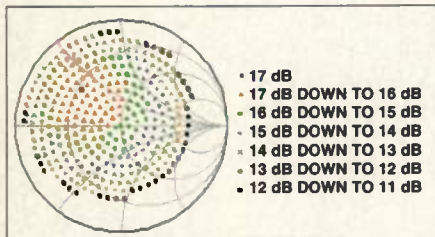
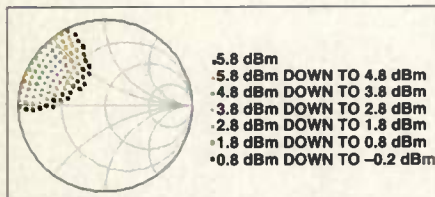
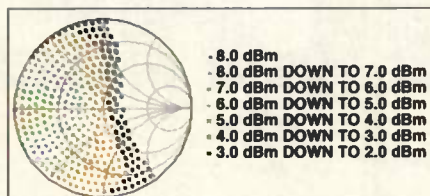

Figure 7. Gain contours for 1.9 GHz LNA.
Figure 8. IIP3 contours for 1.9 GHz LNA.
Figure 12. IP3 contours for decoupling corrected LNA circuit, 1.9 GHz LNA.
4. *Loadpull matching*—The last step in LNA design involves output matching of the transistor. Traditionally, this step used to be relatively simple. An additional resistor either in series or parallel, has been placed on the collector of the transistor for circuit stabilization. Conjugate matching has been exclusively used for narrowband LNA design to maximize the gain out of the circuit. With additional IP3 requirement forced on the LNA, the trade-off between IP3 and gain must be considered. Linearity matching is widely known by high-power amplifier designers, especially those who deal with linear systems, but is relatively unknown for a small signal designer. The so-called load pulling is used to establish IP3 and gain impedance contours. The load pulling can be realized by using nonlinear Spice model of the transistor with simulation software. Harmonic balance can be used for establishing two tone environment. The load pulling method sweeps impedance over the whole Smith chart and plots contours of constant gain and IP3 numbers. Figure 7 shows gain contours at 1.9 GHz and Figure 8 shows IIP3 contours. The optimal gain impedance point does not match the optimal IIP3 point, which means that the design will have to be realized by means of trade off. Typically, the designer should design the LNA circuit at the point where the gain does not degrade as much, and the IP3 is still respectable. If one were to draw a line between the optimal gain and IIP3 impedance points, every point on that straight line will represent a good area of trade-off, with the ends representing the two optimal points.
Although preserving the gain performance of the LNA, the by-passing method (also known as an envelope termination technique) can improve LNA's IIP3 performance without increasing current consumption. Figure 12 shows IIP3 contours after implementation of video frequency decoupling. Comparison of Figure 12 and Figure 8 reveals substantial improvement in IIP3 trade off. Because the gain contours for IIP3 improved circuit will remain the same, the main improvement in IIP3 performance is achieved by extending the available IIP3 impedance points closer to the optimal gain impedance levels.